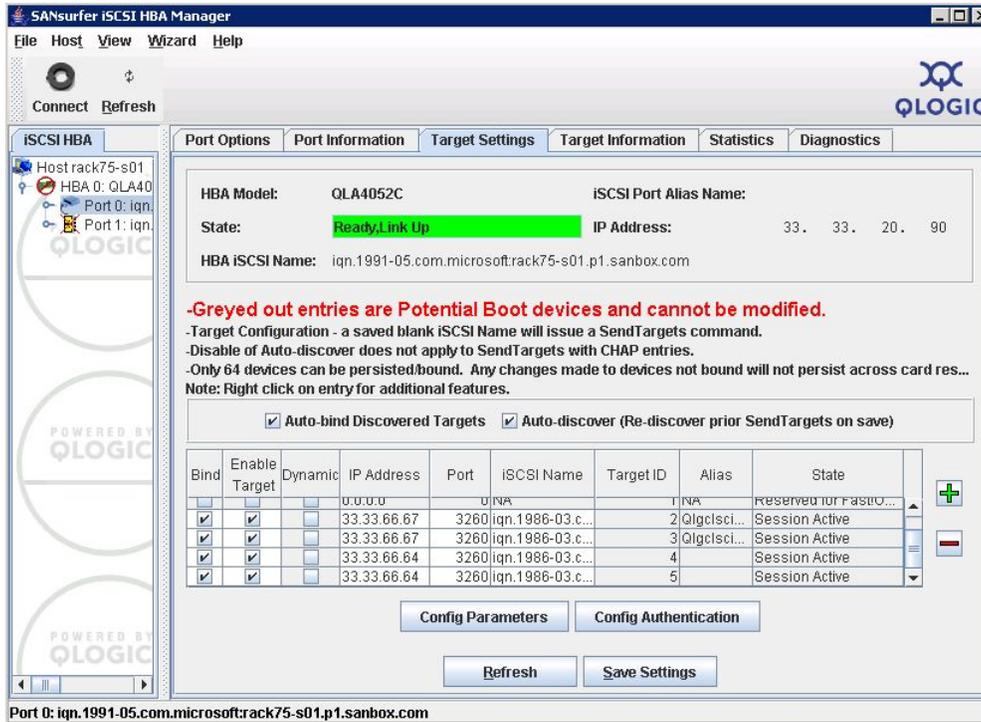

Figure 60 Target settings tab
6. Select the **Target Settings** tab. Verify that the HBA state is Ready, Link Up and each target entry's state is Session Active (Figure 60).